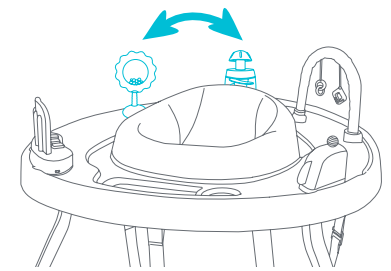

Fig. 6a
- 6 • Place toys in this order as shown. Toys must be properly attached before use (Fig. 6a). **NOTE: ONLY the rattle and the rocket toys are interchangeable.**